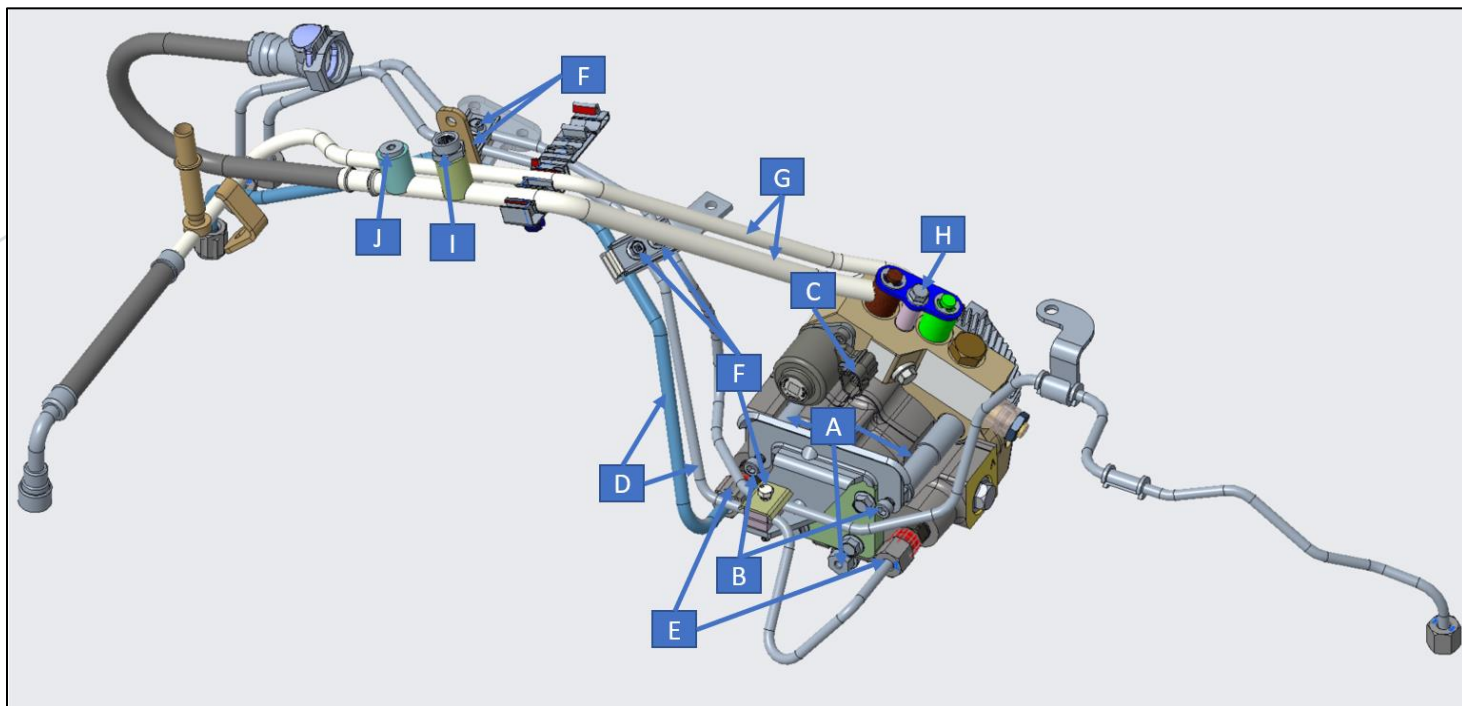

Figure 28: DCR Pump Assembly
10. Use the three OEM pump mounting stud / nuts to secure the pump in place (Labeled as A in Figure 28).
- c. Install the provided High-Pressure Fuel Line Tail Support Bracket to the OEM pump mounting nuts reusing the factory bolts (Labeled as B in Figure 28).
22. Install the supplied low-pressure line assembly into the DCR ports (Labeled as G in Figure 28).
- b. Install blue threadlocker on the line assembly to pump inlet OEM hold-down bolt (H in Figure 28)
25. Connect the electrical connectors on the sensors of the new fuel supply lines (Labeled as I and J in Figure 28).